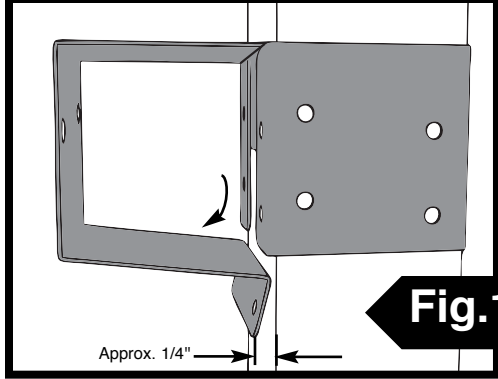

Fig.10a
- 1. Work (2) 4" x 4" into brackets as shown in (Fig. 10a), (Fig 10).**